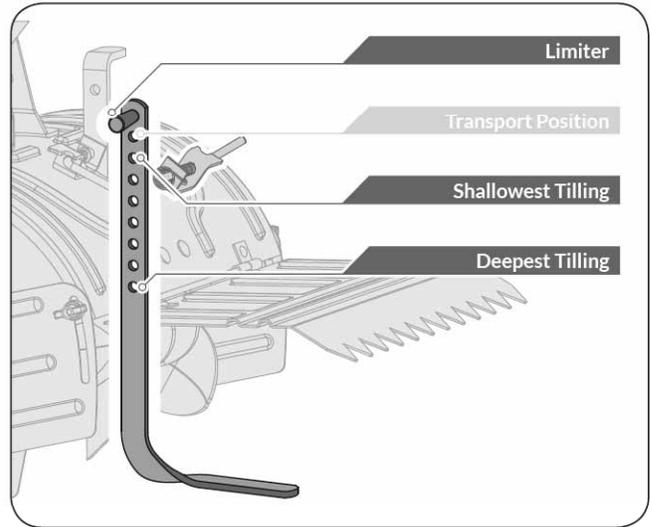

Figure 4b
6. Adjust the depth stake to the desired depth of tilling. (See **Figure 4b**)